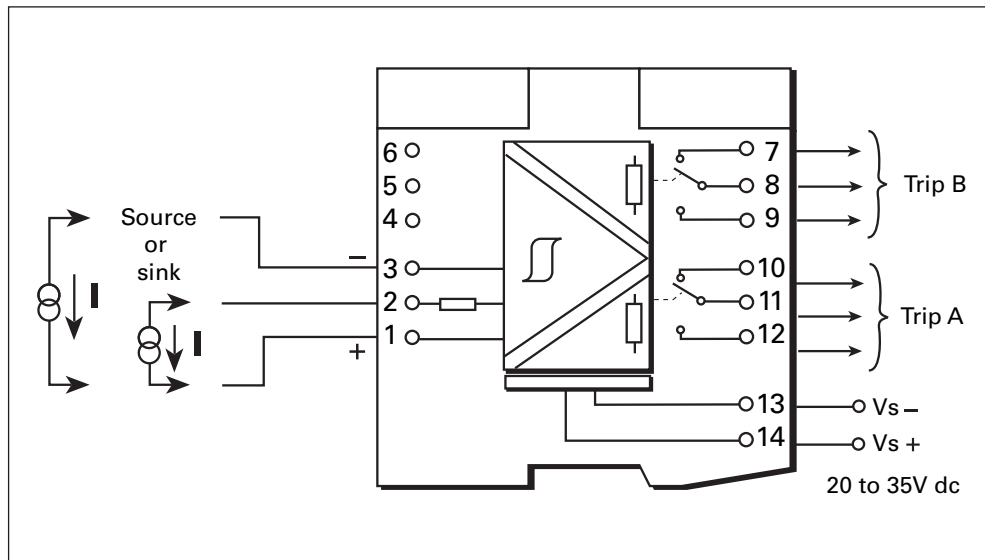

Figure 7.2 - Connections for testing MTL5314 module
2. Set the current source or sink to 12.0mA, and connect it to the appropriate input terminals on the MTL5314 module as shown in Figure 7.2.